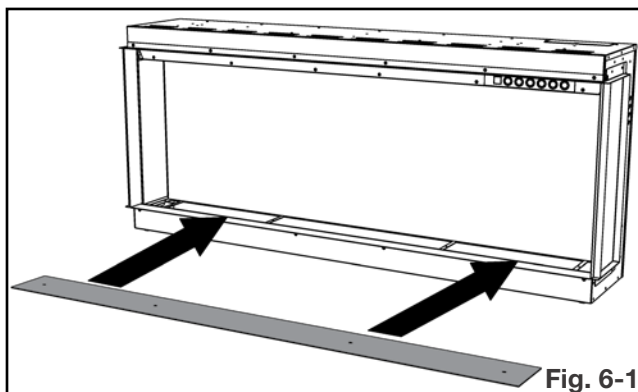

Fig. 6-1
1. Place the media tray in position, ensuring to keep the mat surface facing up. (**Fig. 6-1**).